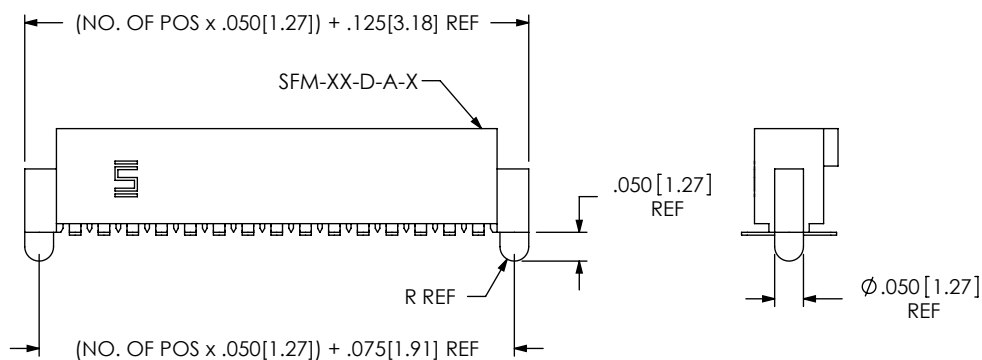

FIG 4
-A: ALIGNMENT PIN (USE SFM-XX-D-A-X) (SEE FIG 4, SHT 2)